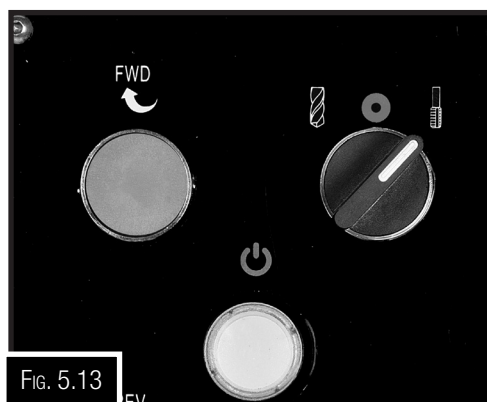

Fig. 5.13
6. Select the “tapping” mode with the drilling/tapping switch on the control panel (Fig. 5.13)